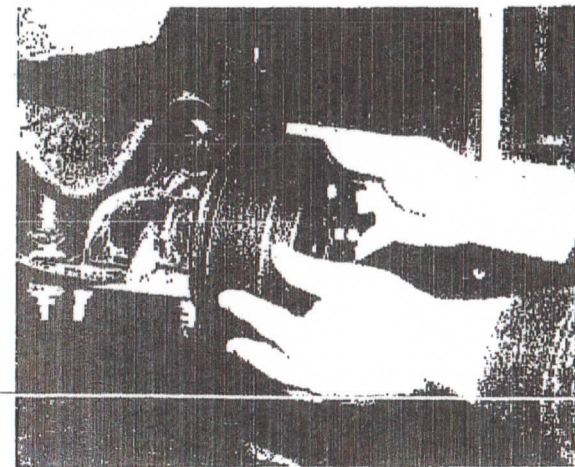

Figure 5.
10. Place the Wheel hub over the existing brake drum and slide onto the wheel studs until fully seated. (See Figure 5.)